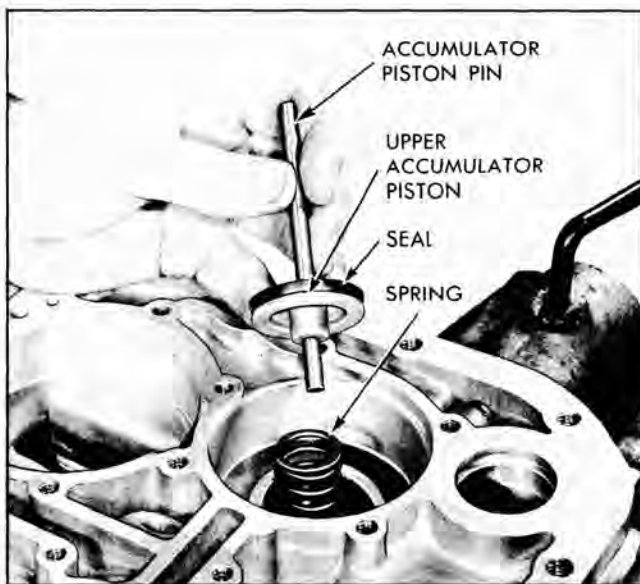

Fig. 46 Removing Accumulator Piston
20. Remove the lower accumulator spring (Fig. 46).
22. Remove the lower accumulator piston pin and, using the stem of the accumulator pin as a tool, remove the upper accumulator piston (Fig. 46).